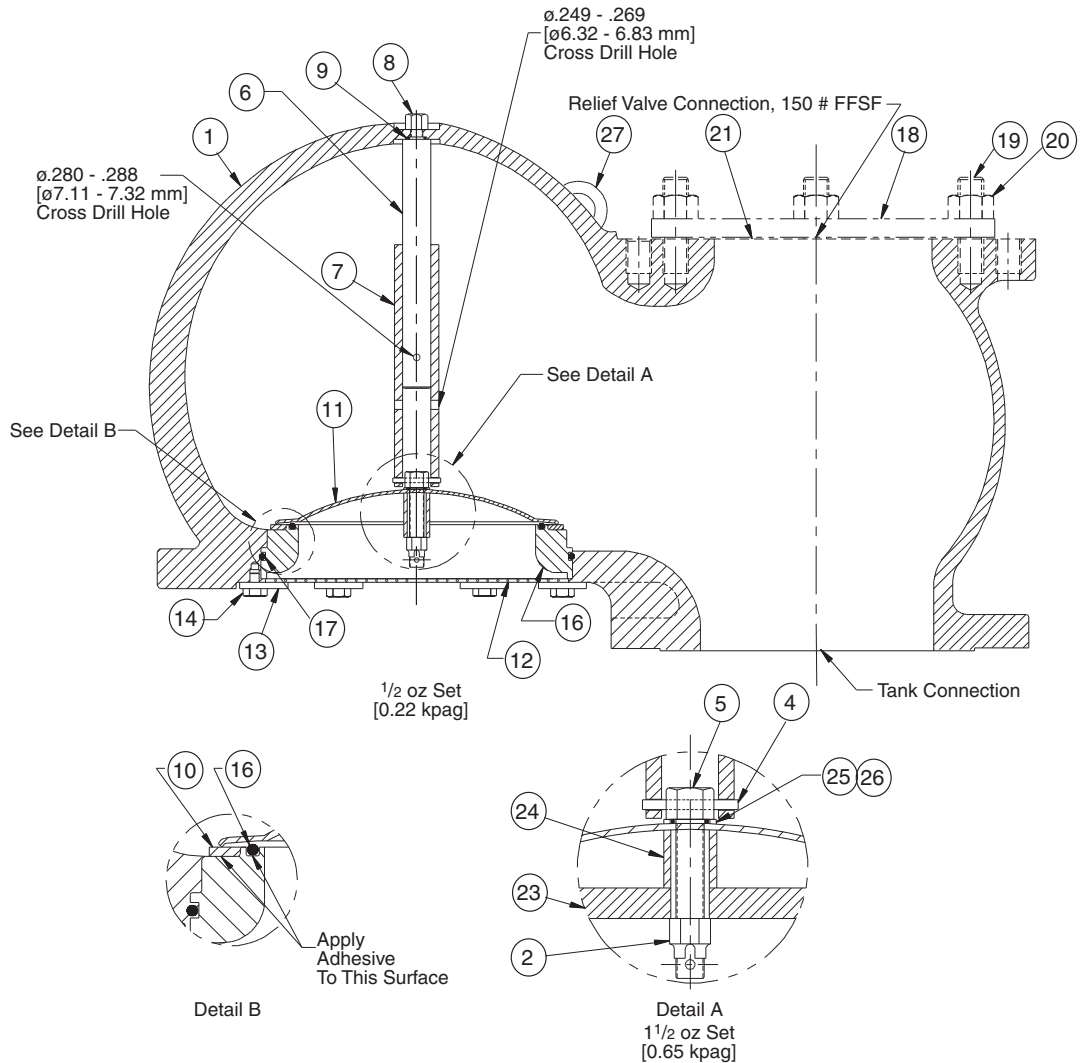

Figure 1
The Anderson Greenwood Type 96A Vacuum Breaker is designed to provide vacuum relief and access for a positive pressure relief valve, with one tank penetration (Refer to Figure 1). The outlet to the positive pressure relief valve is available with a flange size equal to the tank size connection and one equal to the next smaller size. A capped outlet is also available where a relief valve is not required.
2.0 Vacuum Breaker Repair (See Figure 1)